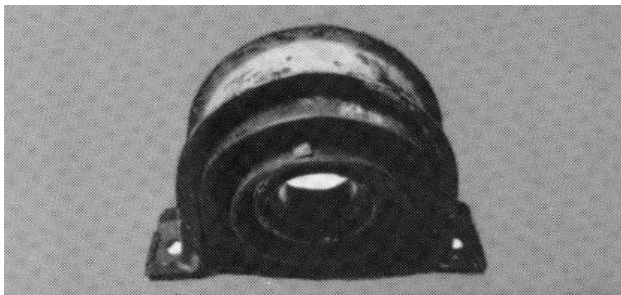

**Figure 82 Split Tube Seam**
3. Split tube seam (Figure 82):